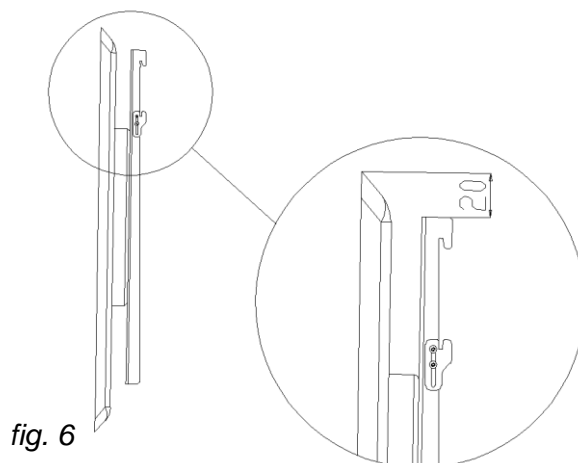

fig. 5a
5. Connect the control box to the lift (fig. 5a ).